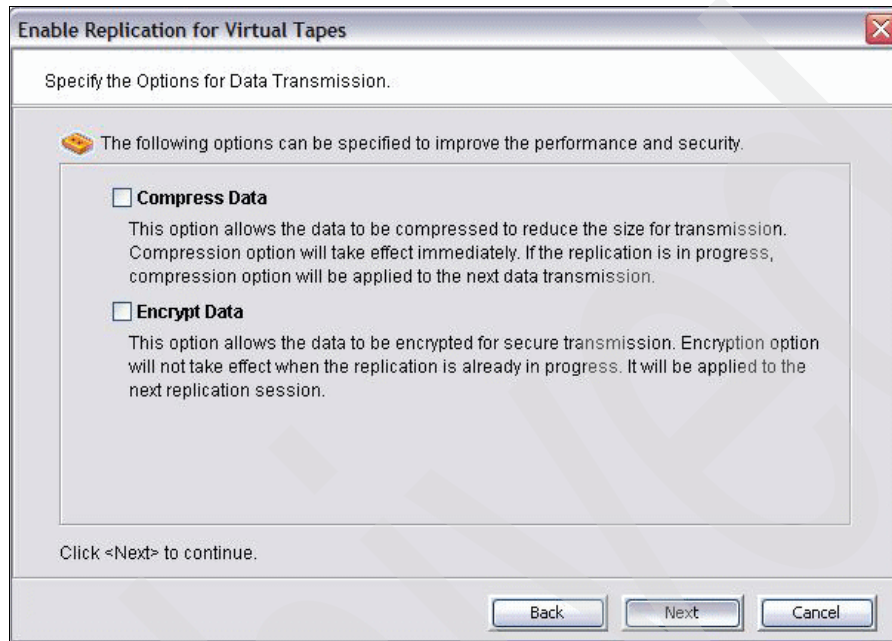

Figure 7-15 Set replication compression or encryption
7. In the Specify the Options for Data Transmission panel (Figure 7-15), you can select compression, encryption, or both options. Both of these options require that you have an additional license on both TS7530 Servers. Since we only have a replication license, we did not choose either option.